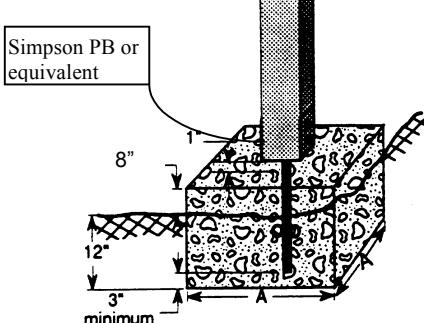

Figure 3/Enclosed patio section
- 2) Openings may be enclosed with insect screening or plastic that is readily removable translucent or transparent plastic not more than 1/8" in thickness. (See figures 3 and 4 above)